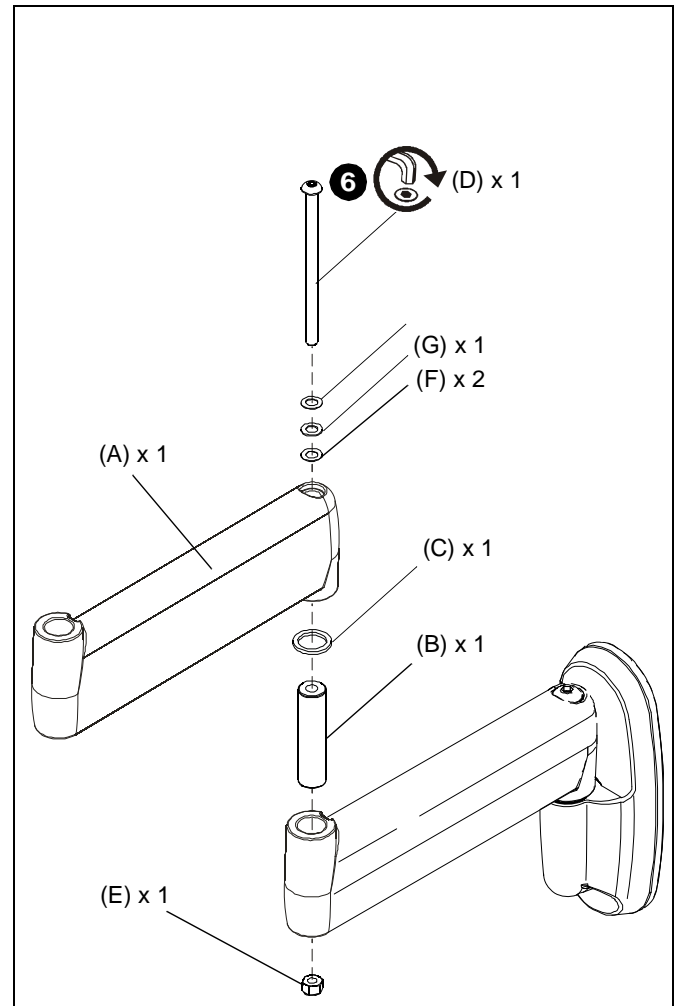

Figure 2
1. Slide spacer (C) onto pivot pin (B). (See Figure 2)
2. Insert pivot pin (B) with spacer (C) into top of existing arm until pivot pin (B) is resting on bottom of recessed area in arm. (See Figure 2)
3. Slide extension arm (A) onto pivot pin (B) with spacer (C). (See Figure 2)
4. Insert nut (E) up into bottom of existing arm until seated in "Nut-shaped" recessed area and hold in place. (See Figure 2)
5. While holding nut (E) in place, slide screw (D) through washers (F and G) in the order shown in figure below. (See Figure 2)
6. Insert screw (D) with washers (F and G) into top of extension arm (A), downward through pivot pin (B) with spacer (C) and existing arm and thread into nut (E). (See Figure 2)